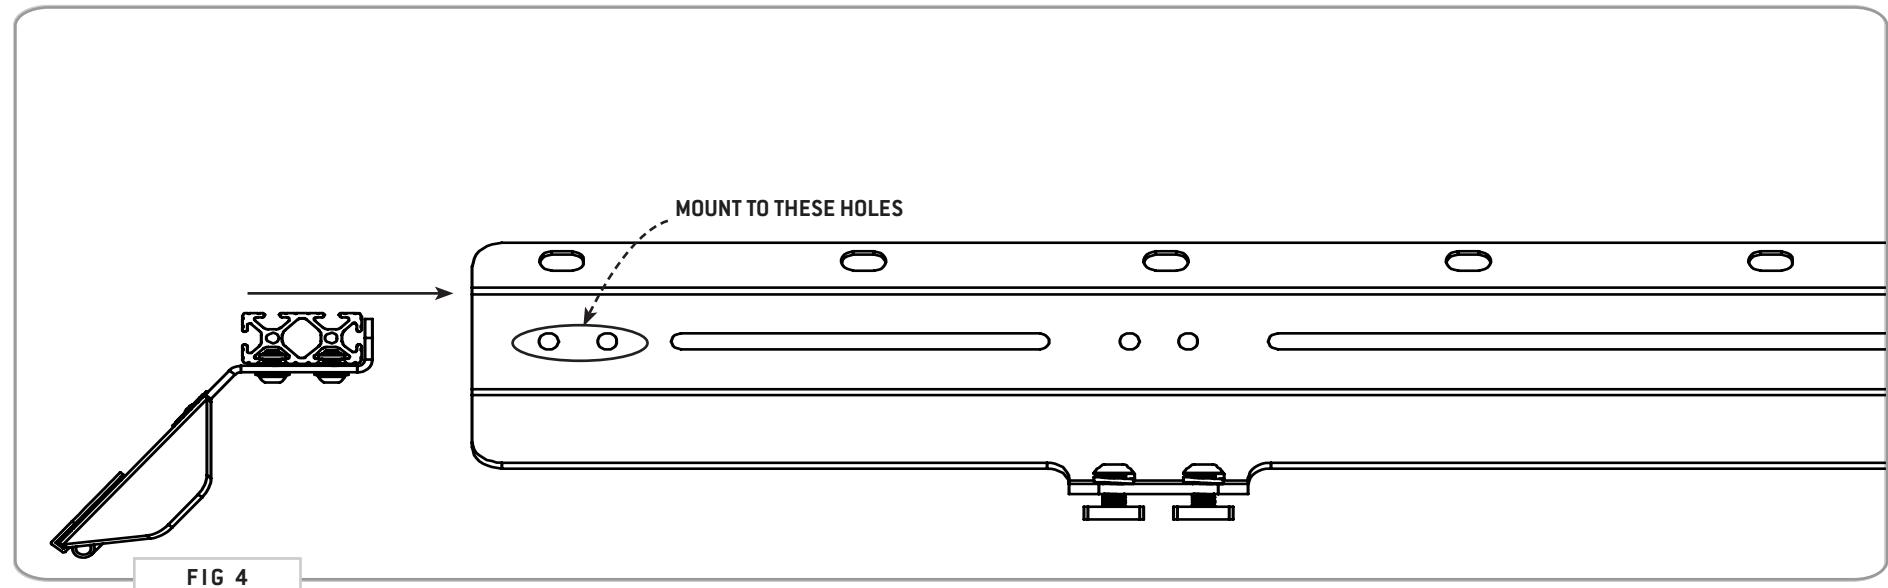

FIG 4
2.2 Fairing Install: Now you're ready to attach the fairing to the roof rack. Slide it in from the front and into the location shown in **FIG 4** and tighten down using **(2)** **1/4-20"** **Flange Head Screws**.